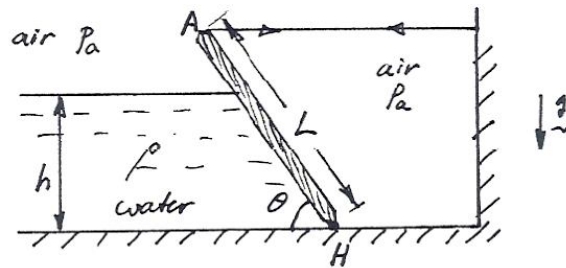

Figure P2.42
2.42 A gate of uniform composition, and of length L , width w , and mass m , is held by a frictionless hinge at H and a string at A , as shown in Figure P2.42. Find the water depth h at which the tension in the string is zero, in terms of m , L , w , θ and ρ (the density of the water). Indicate all your working clearly, and state all your assumptions.